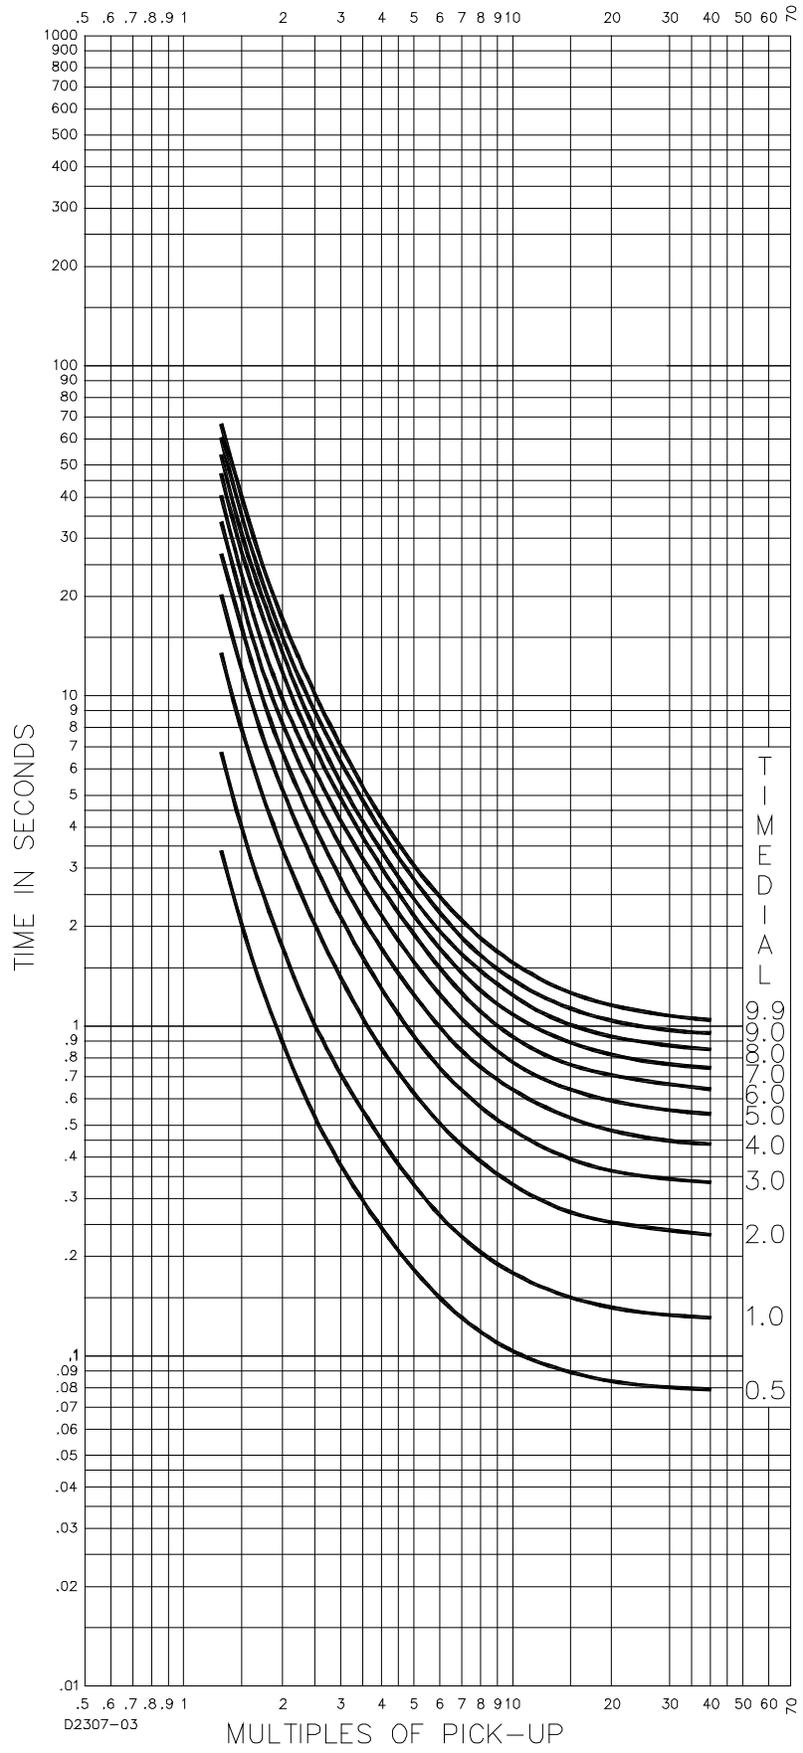

Figure 7-13. V2-Very Inverse Curve (SW3-3 On, Similar to GE IAC 53)
- V2-Very Inverse (SW3-3 ON, Similar to GE IAC 53): Figure 7-13